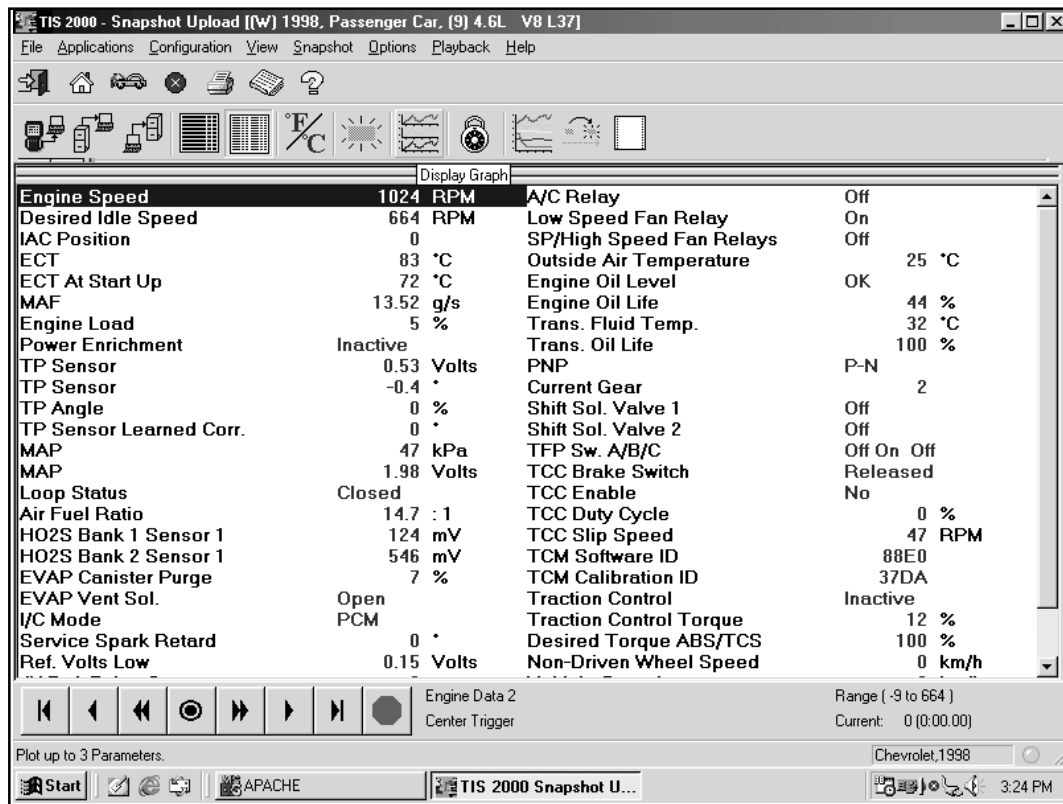
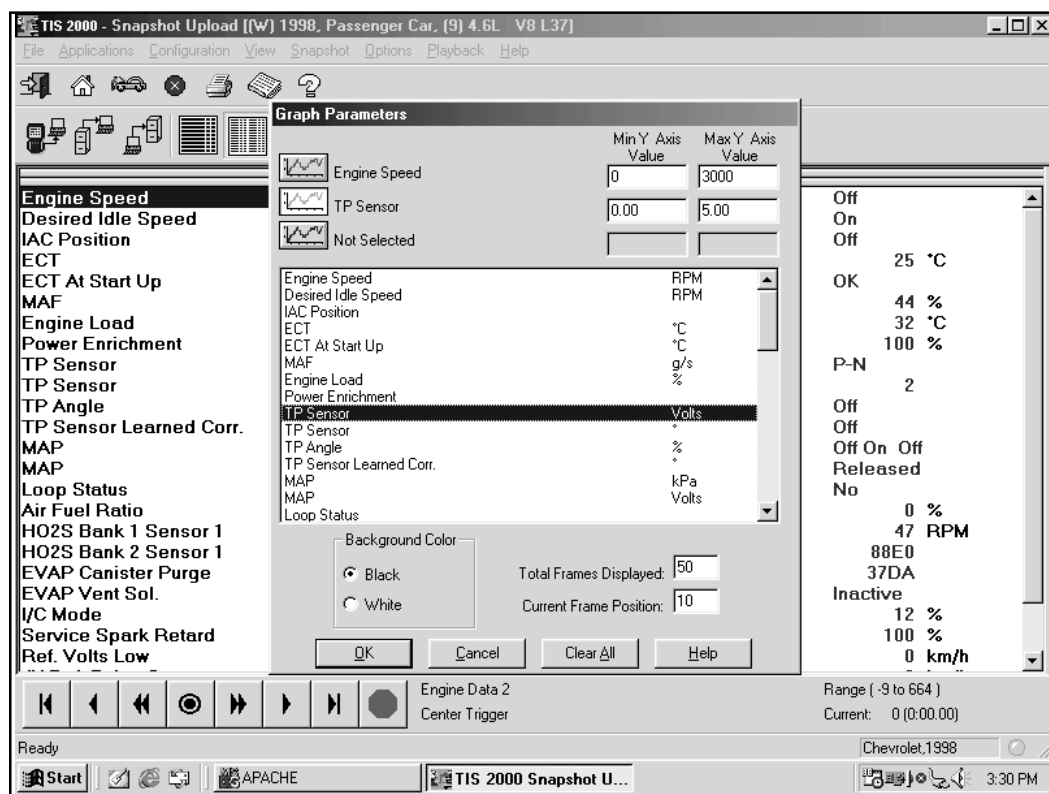

Figure I-72, Display Graph Icons
Figure I-73, Graph Parameters Window
1. Click on the leftmost Display Graph icon (Figure I-72). A Graph Parameters window will appear (Figure I-73).
2. Click on the first graph icon at the top of the graph parameters window, then select a parameter from the list in the lower portion of the box. The parameter name will appear next to the first graph icon (Figure I-73).